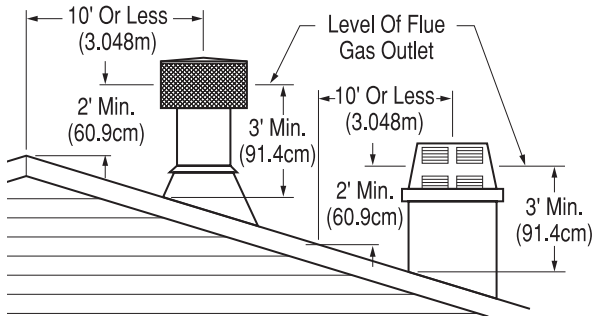

Figure 20- 10 Foot Rule
All chimney terminations must extend a minimum of 3 feet above the highest point where it passes through the roof and must be at least 2 feet above roof with a 10 foot horizontal span (see Figure 20).
- Add next sections of pipe until end penetrates roof line. Check to see that proper clearances are maintained. Extend chimney by adding sections of double wall pipe until pipe is minimum of 30" above highest point of roof cutout. Termination and chimney must extend a minimum of 36" above highest point where it passes through the roof (see 10-Foot Rule and Figure 20, page 10).